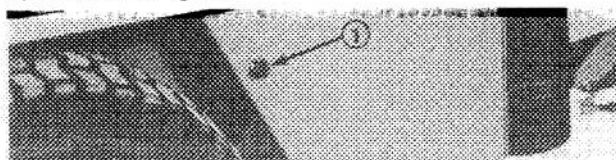

Figure 7
1. Loosen capscrew securing battery cover and open cover (Fig. 7).